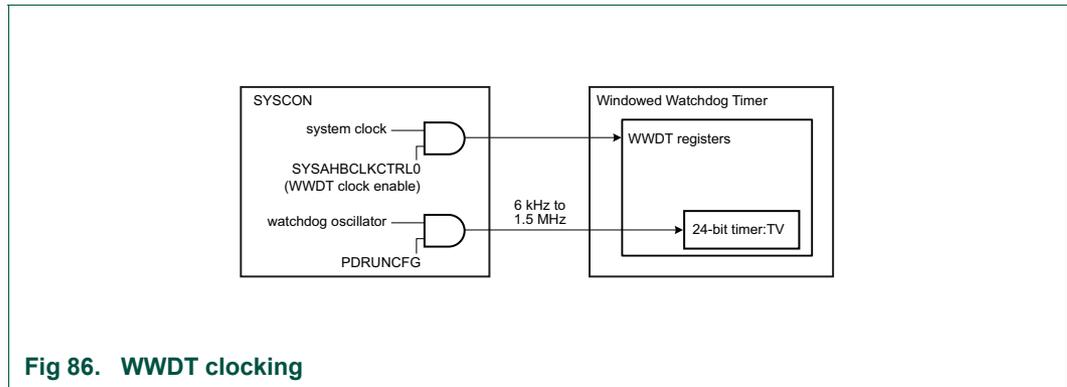

Fig 86. WWDT clocking
- The watchdog clock (WDCLK) is generated from always on FRO\_1MHz clock, see Figure 86 that can be divided by WDT clock divider register value in SYSCON module. See Table 104. The accuracy of this clock is limited to +/- 15% over temperature, voltage, and silicon processing variations. To determine the actual watchdog frequency, use the frequency measure block. See Chapter 11 “LPC55S0x/LPC550x Analog control”.